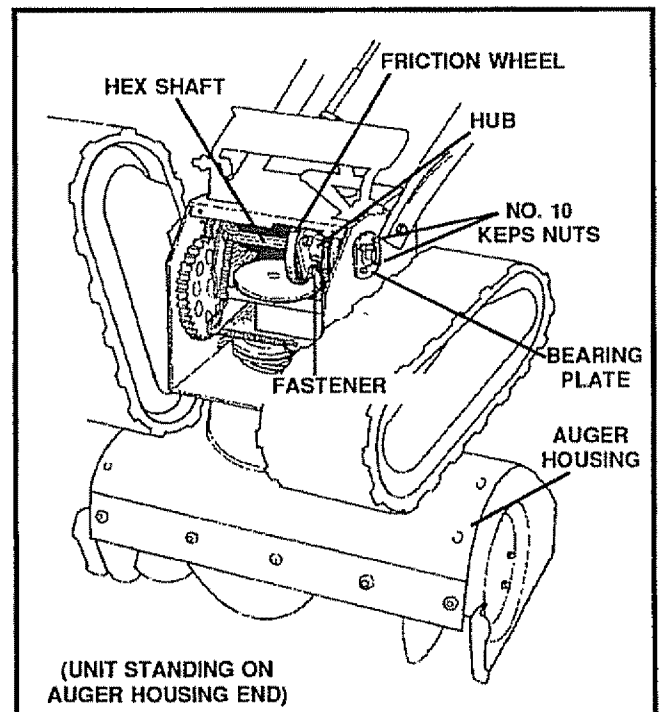

FIG. 33
- Rotate the right side track until it is parallel to the ground (See Fig. 33).
- Move the shifter lever into first (1) gear.
- Loosen the four No. 10 keps nuts securing the bearing plate (See Fig. 33). Do not remove the nuts.